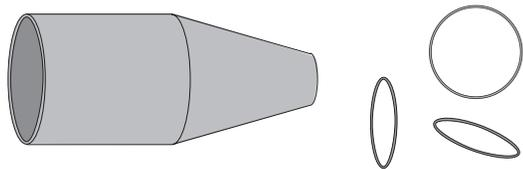

Figure 1
1.1 This procedure describes how to use the Corning Cable Systems O-ring installation tool (p/n 3000176-01) to install a 1 mm-thick O-ring on an OptiFit® access connector (Figure 1). Use of this tool minimizes stretching of the O-rings during placement on the connector plug body.